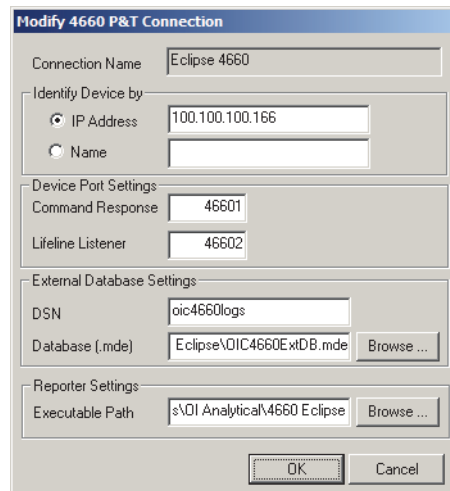

Figure 14.10. Modify 4660 P&T Connection dialog box for static IP addresses
- Click **Add** to add a new Eclipse or select an Eclipse icon and click **Modify**. The Modify 4660 P&T Connection dialog box appears (Figure 14.10).
2. Click **Add** to add a new Eclipse or select an Eclipse icon and click **Modify**. The Modify 4660 P&T Connection dialog box appears (Figure 14.10).